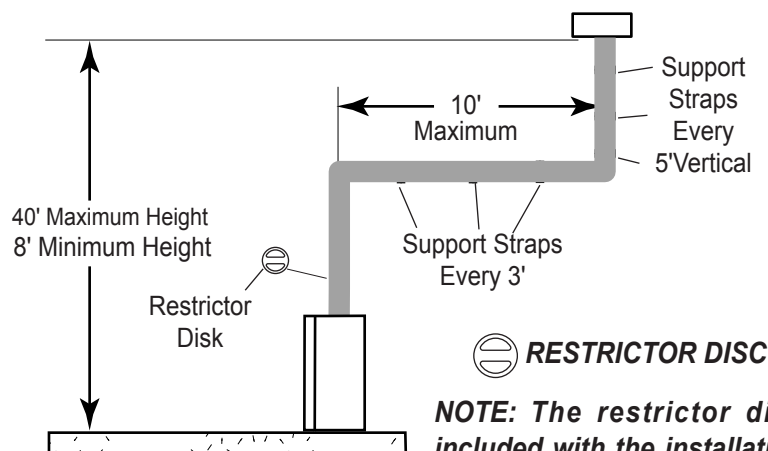

Figure 25- Support Straps for Horizontal Runs
- Vertical installations up to 40' (12m) in height. Up to a 10' (3m) horizontal vent run can be installed within the vent system using a maximum of two 90° elbows. See Figure 25.
NOTE: If an offset is needed to avoid obstructions, you must support the vent pipe every three (3) feet. Use wall straps for this purpose. See Figure 25, page 22. Whenever possible, use 45° elbows instead of 90° elbows. The 45° elbow offers less restriction to the flow of the flue gases and intake air.